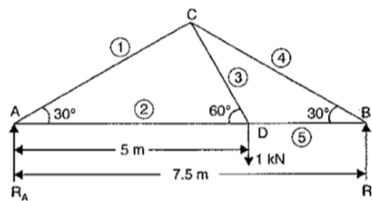

Figure 8
6. A truss of span 7.5 m carries a point load of 1 kN at joint D as shown in Figure 8 find the reactions and forces in the members of the truss, using Flexibility Method. [14M]